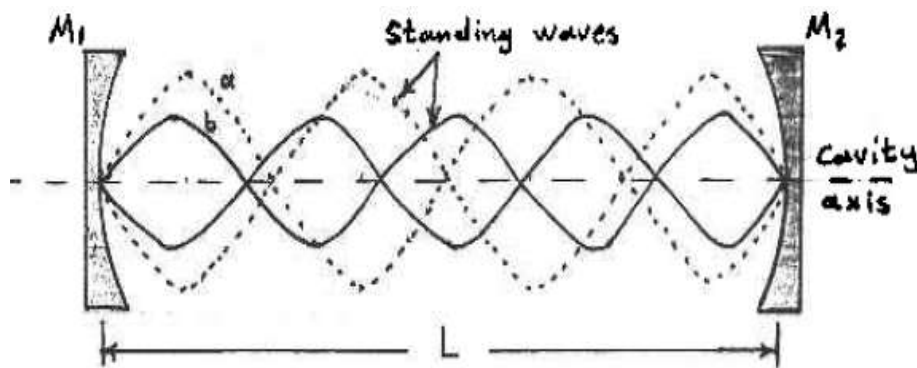

Fig. 5
Laser oscillations occur, when the wave within the cavity replicate itself after two reflections so that the electric fields add in phase. In other words, the mirrors form a resonant cavity and standing wave patterns are setup. The cavity resonates when there is an integer number (m) of half wavelengths spanning the region between the mirrors, as shown in Fig. 5. That there must be a mode at each mirror and this can only happen when the separation of the mirrors (L) equals a whole number multiple of $\lambda/2$.